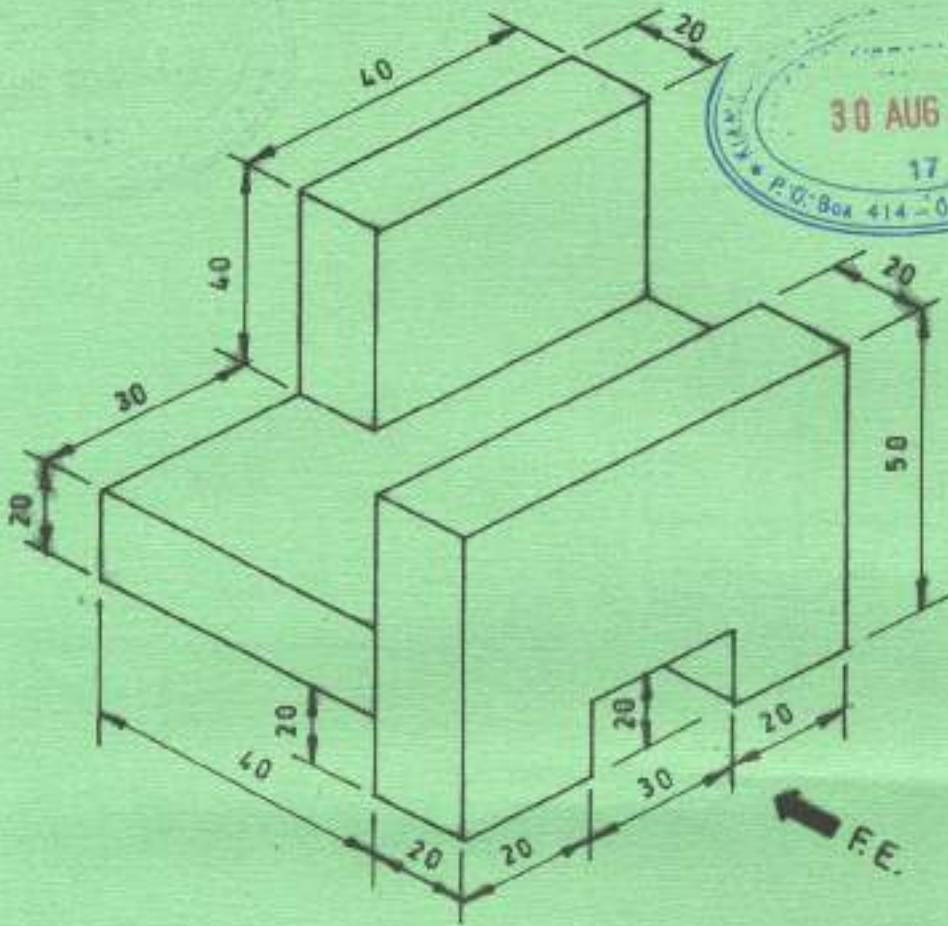

Fig. 4
4. Figure 4 shows a machine mounting.